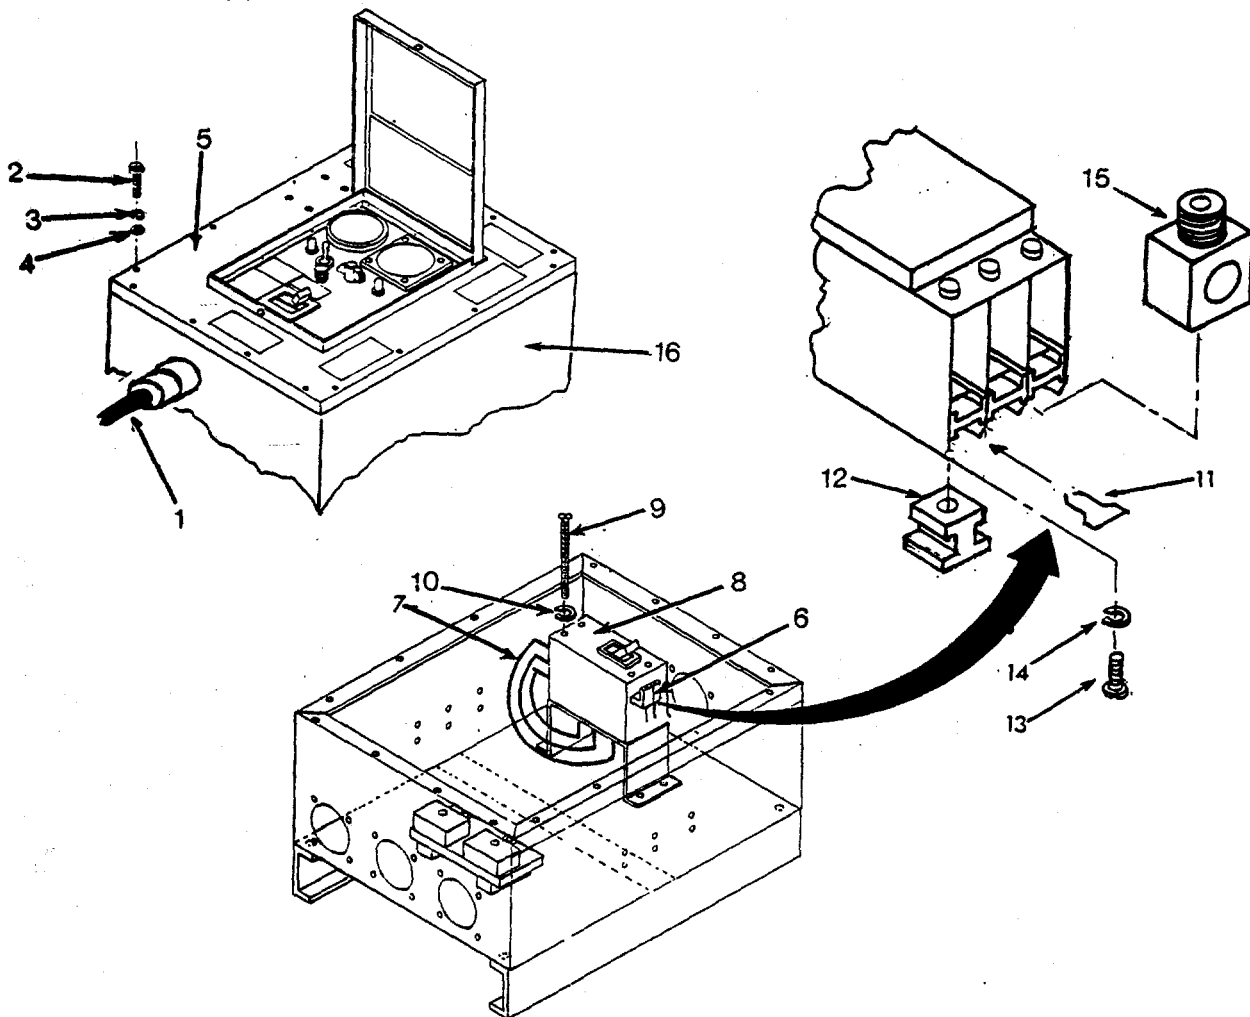

Figure 4-19. Replacing Circuit Breaker, Power Distribution Box Assembly
4-23. **POWER DISTRIBUTION BOX ASSEMBLY.** Refer to illustration of power distribution box assembly in figures 4-19 through 4-26 below for location of components and hardware.
a. Repair by replacing Circuit Breaker, Power Distribution Box Assembly. (See figure 4-19.)
(1) Request generator operator shut down generator and disconnect main power cable (1). Remove screws (2), lockwashers (3), flat washers (4), and raise control panel assembly (5).
(2) Tag and disconnect terminal wire lug extenders (6) and line wires (7) on circuit breaker (8).
(3) Remove screws (9), and lockwashers (10) holding circuit breaker (8) in place.
(4) Remove circuit breaker (8).
(5) Remove clips (11) and square nuts (12) from circuit breaker (8) and retain for use with replacement circuit breaker.
(6) Remove screws (13), lockwashers (14), and wire terminal blocks (15) from load side of replacement circuit breaker (8).
(7) Position square nuts (12) in replacement circuit breaker (8) and secure with clips (11).
(8) Place replacement circuit breaker (8) in position.
(9) Secure screws (9) and lockwashers (10) holding circuit breaker (8) in place.